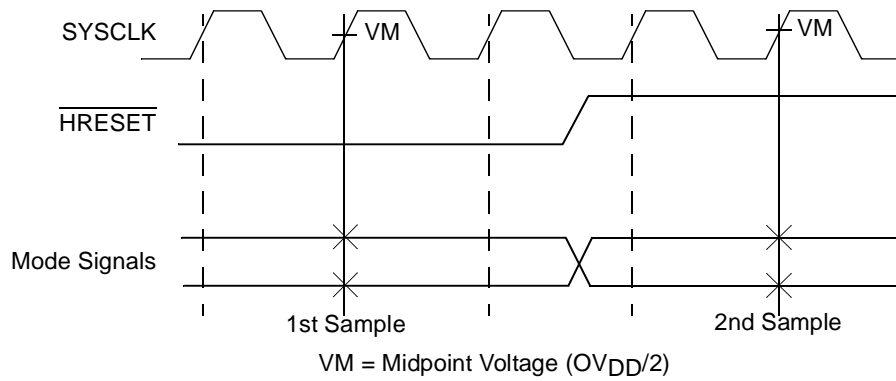

Figure 5. Mode Input Timing Diagram
Table 9 provides the processor bus AC timing specifications for the MPC7457 as defined in Figure 4 and Figure 5. Timing specifications for the L3 bus are provided in Section 5.2.3, “L3 Clock AC Specifications.”
8. BMODE[0:1] and BVSEL are mode select inputs and are sampled before and after HRESET negation. These parameters represent the input setup and hold times for each sample. These values are guaranteed by design and not tested. These inputs must remain stable after the second sample. See Figure 5 for sample timing.
Figure 5 provides the mode select input timing diagram for the MPC7457.